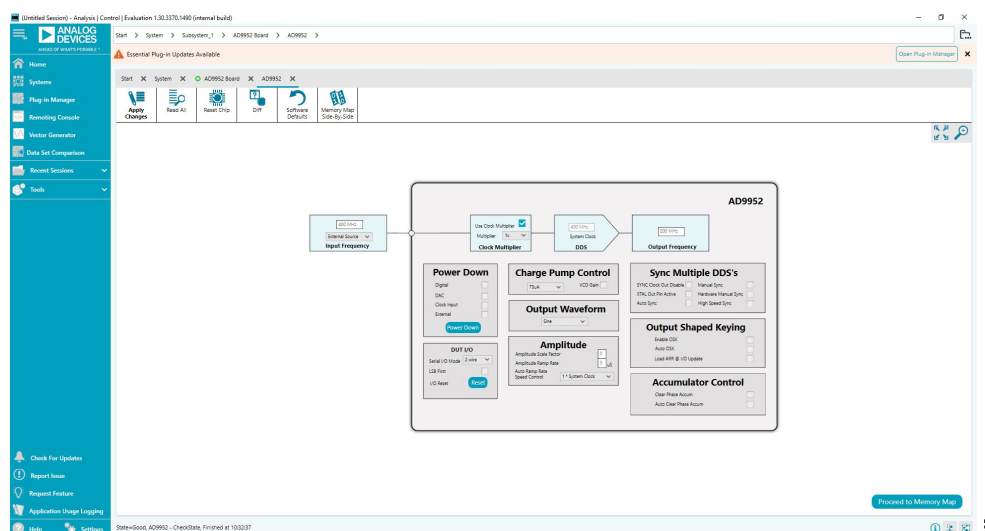

Figure 5. ACE Software Front Panel
3. Double-click the **AD9952** icon that appears on the board GUI to open the main control window shown in **Figure 5**.
The main controls are shown in the Figure 5. To modify any controls, take the following steps:
2. Modify any **ACE Software** front panel settings as required (see Figure 5).
3. Click **Apply Changes** to load the modified settings to the **AD9952**, which then performs the write sequence. If the **System Clock** frequency and **Output Frequency** selected are outside of the operational range, an error message will appear within the GUI. Specific blocks can be powered down by setting the corresponding power-down check boxes within the **Power Down** section shown in Figure 5.
The **Input Frequency** section shown in Figure 5 allows users to configure the reference clock.
The **Clock Multiplier** section shown in Figure 5 allows users to select the phase-locked loop (PLL) multiplication factor ( $4\times$  to  $20\times$ ) by which to scale the input frequency. The default setting of this dropdown menu is **1x**, indicating that the **Clock Multiplier** circuitry is bypassed and that the input frequency and crystal input are piped directly to the DDS core.
The **System Clock DSS** section shown in Figure 5 displays the operating frequency of the DDS core (system). The value within this box is derived from the value entered and selected in the **Input Frequency** section and the **Multiplier** selected in the **Clock Multiplier** section by the user.
To customize the channel output configuration, go to the **Output Frequency** section shown in Figure 5. By default, the channel output operates in single tone mode.
Users can go to the **Power Down** section shown in Figure 5 to power down any of the following:
To control the current settings on the charge pump, go to the **Charge Pump Control** section shown in Figure 5. The default value of the charge pump current is **75µA**. Other dropdown menu options included the following: **100µA**, **125µA**, or **150µA**.
In the **Output Waveform** section shown in Figure 5, users can select either a **Cosine** or **Sine** function for the angle-to-amplitude conversion. The default setting is **Cosine**.
Use the **Amplitude** section in Figure 5 to set the **Amplitude Scale Factor**, **Amplitude Ramp Rate**, and **Auto Ramp Rate Speed Control**.
The SYNC\_CLK pin is active by default within the **Sync Multiple DDS's** section of Figure 5. When the **SYNC Clock Out Disable** feature is enabled (checked off), the SYNC\_CLK pin assumes a static Logic 0 state to minimize the noise generated by the digital circuitry. The synchronization circuitry remains active internally to maintain the device timing.
The shaped on-off keying function is enabled or disabled using the **Output Shaped Keying** section shown in Figure 5 by enabling (checking off) **Enable OSK**. The OSK function allows users to control the ramp-up time and ramp-down time when turning the DAC on or off. This function is primarily used in burst transmissions of digital data to reduce the adverse spectral impact of short, abrupt bursts of data.
In the **Accumulator Control** section of Figure 5, the following options are available:
The **DUT I/O** section shown in Figure 5 controls the I/O configuration for the device. Click the **Reset** button of the **I/O Reset** to send an I/O reset to the corresponding serial port state machine. Select the **LSB First** box to change the data format to LSB first from the default setting of MSB first. Use the **Serial I/O Mode** dropdown menu to select the desired I/O mode of operation: **2 wire** or **3 wire** (which is the default).